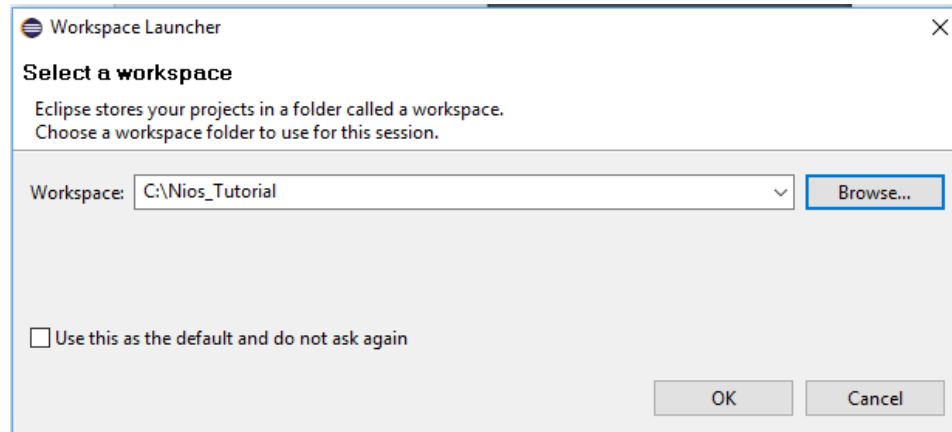

Figure 3-2
2.) You will then select your workspace you want to work in as shown in Figure 3-2.